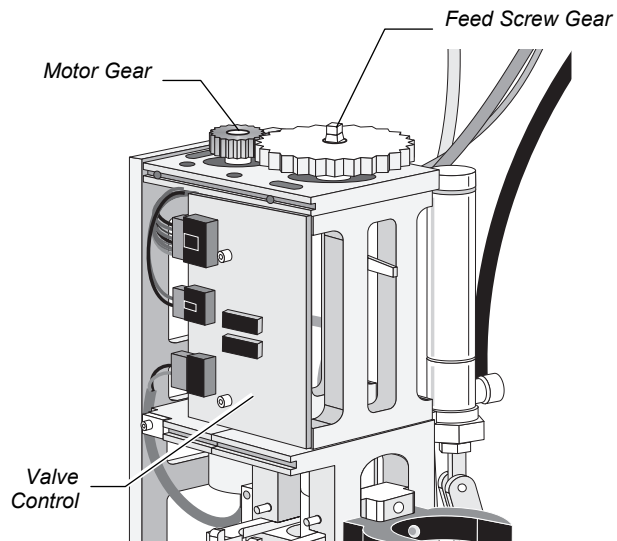
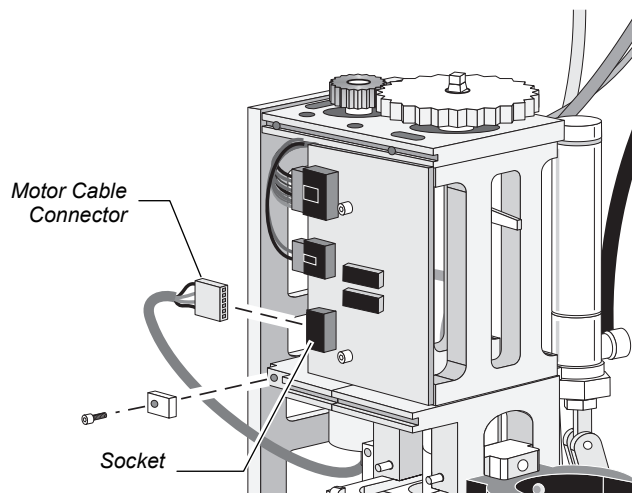
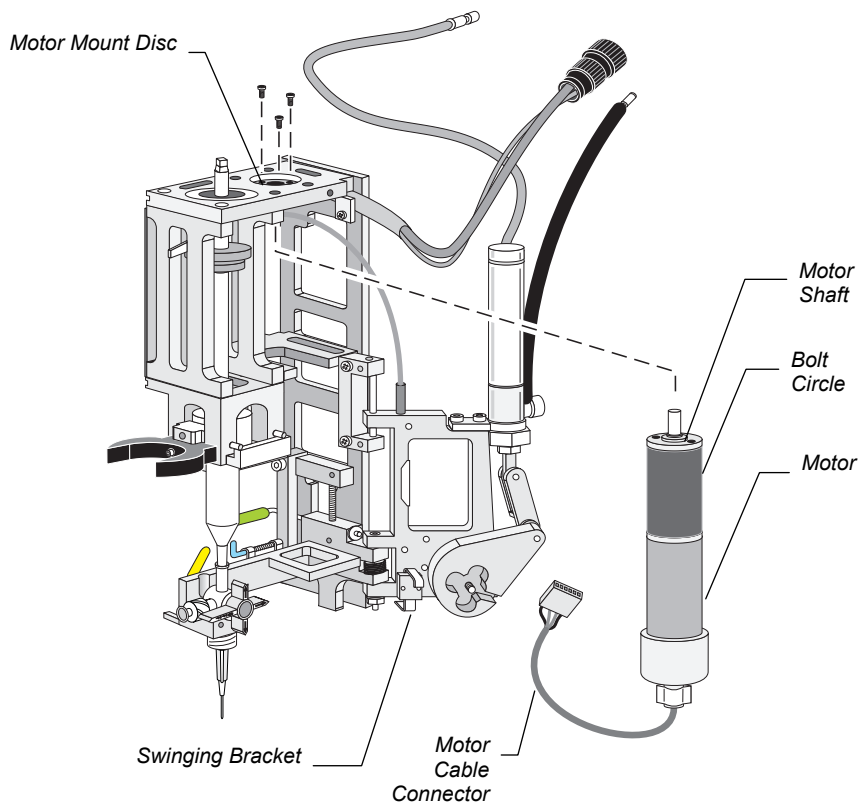

Figure 2-1 DP-3000 with Main and Gear Covers Removed
Figure 2-2 Disconnecting the Motor Cable and Clamp
Figure 2-3 DP-3000 with Motor Removed
Refer to Figure 2-1, Figure 2-2 and Figure 2-3 for the following procedure.
- ▶ The motor gear, feed screw gear, and valve control PCA will now be exposed. See Figure 2-1.
10. Disconnect the red connector from the valve control PCA. See Figure 2-2.
15. Gently pull down on the motor, and lift it out of the pump. See Figure 2-3.
Refer to Figure 2-2 and Figure 2-3 to locate parts.
8. Connect the red motor cable connector to the red socket on the valve control PCA. See Figure 2-2.